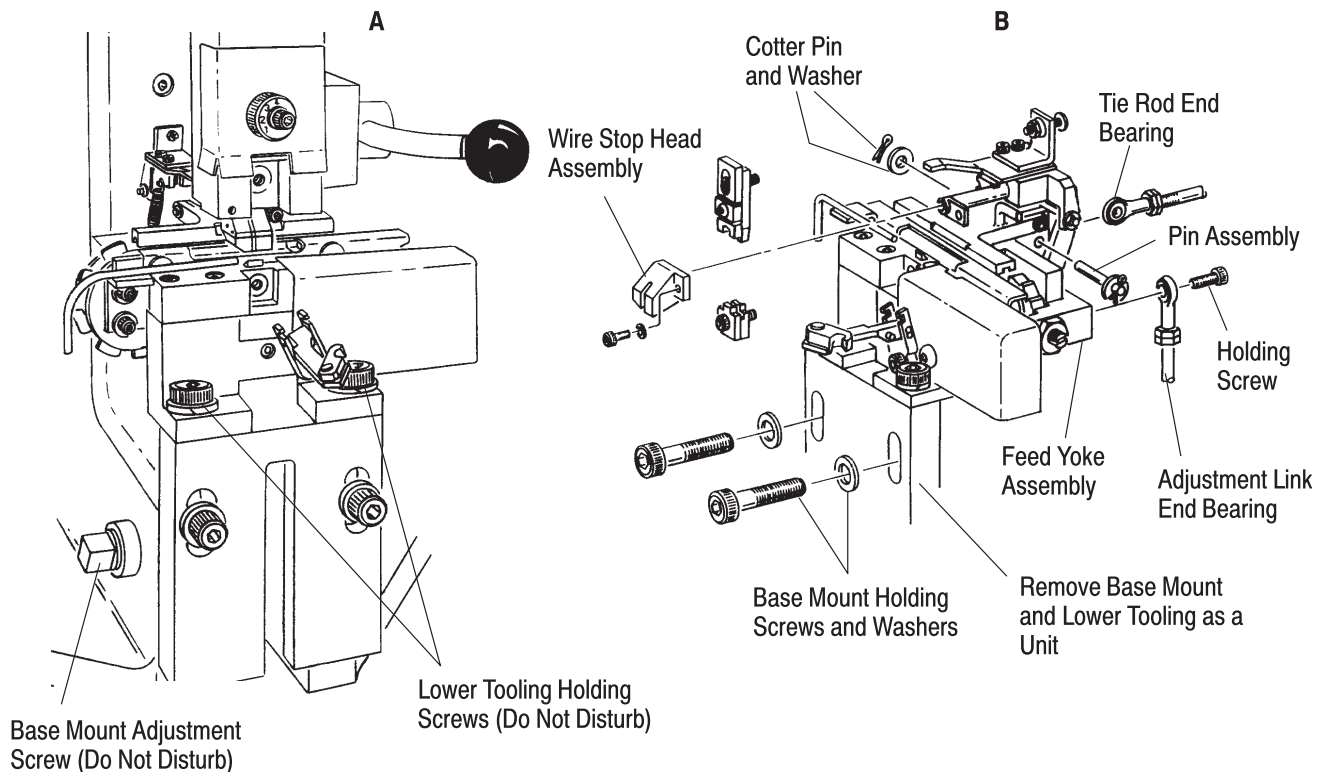
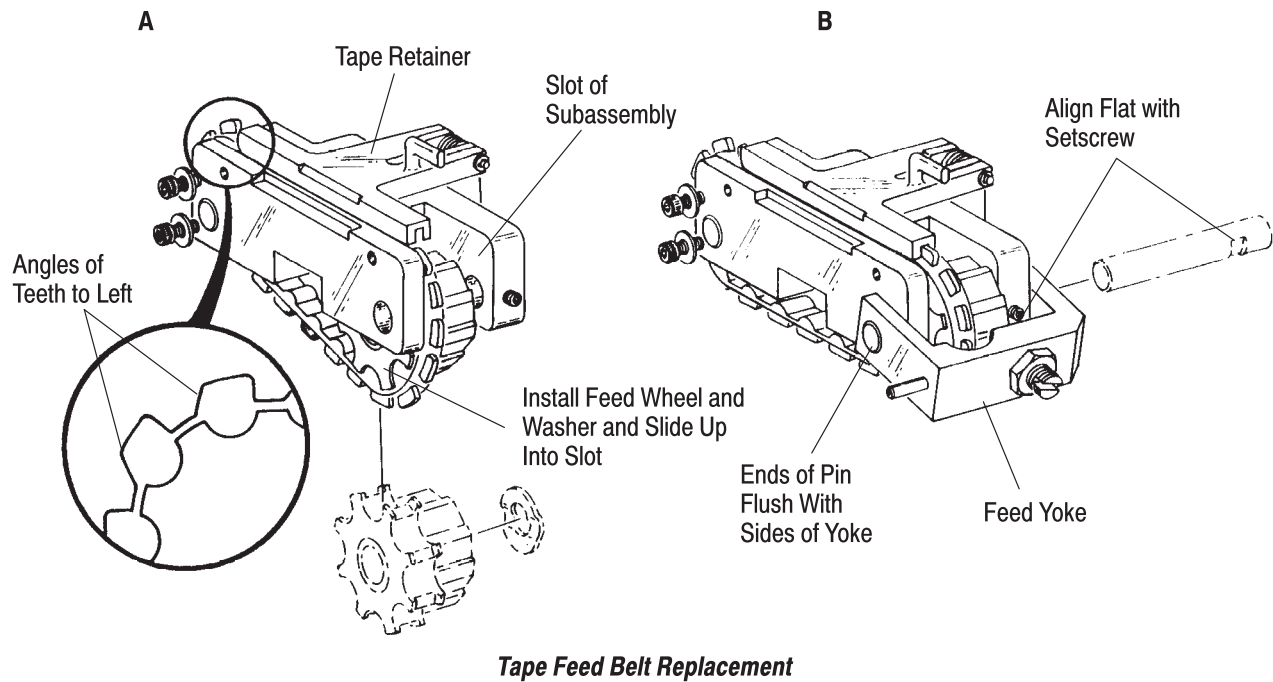

Figure 30
Figure 31
5. Remove one cotter pin and washer, then remove pin assembly from the tie-rod end bearing. Refer to Figure 30,B.
**CAUTION** *DO NOT disturb the lower tooling holding screws or the base mount adjustment screw, or damage to dies may occur. Refer to Figure 30,A. These screws are factory adjusted, and they control the die alignment and bottoming. If the screws are disturbed, contact your local field service engineer, or call the Tooling Assistance Center for for alignment and adjustment.*
7. Remove base mount holding screws and washers as shown in Figure 30,B, then remove the lower tooling as a unit, as shown.
8. Loosen screws (104) and remove the terminal guide (20).
9. Remove screw (103) and remove metal guard (31).
10. Remove screw (53) and washer (47), then remove wire stop support assembly (11) as a unit.
11. Remove front clamp plate (9) containing pin (117) by removing two screws (46) and washers (47), then remove spring (99) while sliding index unit subassembly off of slide mount (23).
12. Remove the belt holddown (34) by removing two screws (63) and washers (64).
13. Pivot the feed yoke assembly (42) downward to gain access to setscrew (72), then loosen the setscrew. See Figure 31, B
14. Remove special pin (33), washer (54), and feed wheel (32) from the bottom of of the subassembly.
15. Lift the tape retainer (18) and remove old tape feed belt (30).
16. Install new tape feed belt by lifting tape retainer on indexing unit, being sure that angled portion of the belt teeth are to the left of the indexing subassembly assembly as shown in Figure 31,A.
17. Slide the feed wheel, washer, and belt up into the slot of subassembly, then align pin holes and insert special pin. Align flat on pin with setscrew, then tighten the setscrew. The ends of the pin must be flush the sides of yoke, as shown in Figure 31,B.
18. Install belt holddown (34) with two screws (63) and washers (64).
19. Slide the indexing unit subassembly all the way onto slide mount (23): pin inside of yoke (42) must enter slot in connecting link (28).
20. Lay spring (99) in bottom recess in slide mount (23), then compress spring with screwdriver while installing front clamp plate (9) with two screws (46) and washers (47). Release spring to butt against pin (117) in clamp plate.
21. Slide the wire stop support assembly (11) onto slide mount (23) and install screw (53) with washer (47).
22. Install terminal guide (20) and tighten screws (104).
23. Install metal guard (31) with screw (103).
24. Install assembled base mount and lower tooling against machine base and secure with two screws and washers as shown in Figure 30,B. Refer to CAUTION after Step 6.